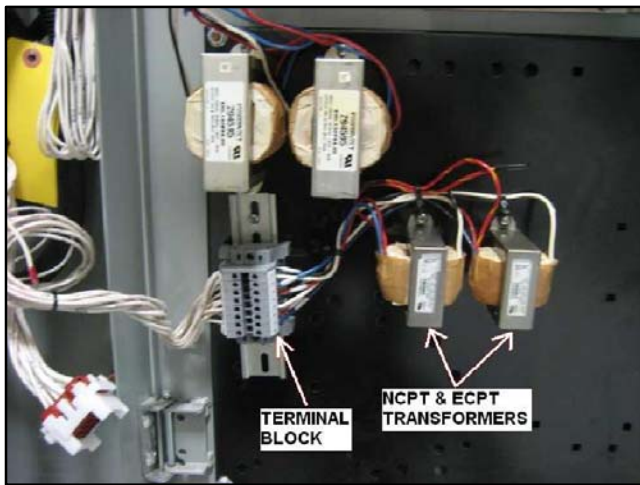
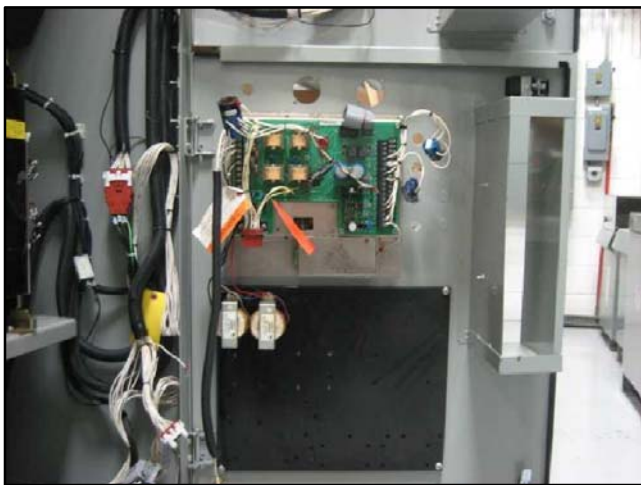

Figure 12 Transformers and Terminal Block on Lower Panel (do not disconnect electrical connections)
Figure 13 Transformers and Terminal Block Removed from Lower Panel but Not Disconnected
11. Without disconnecting the leads, remove the mounting screws that secure transformers NCPT and ECPT and the terminal block to the lower panel. See Figure 12 and Figure 13. The transformers and terminal blocks will be secured to the new mounting plate later.